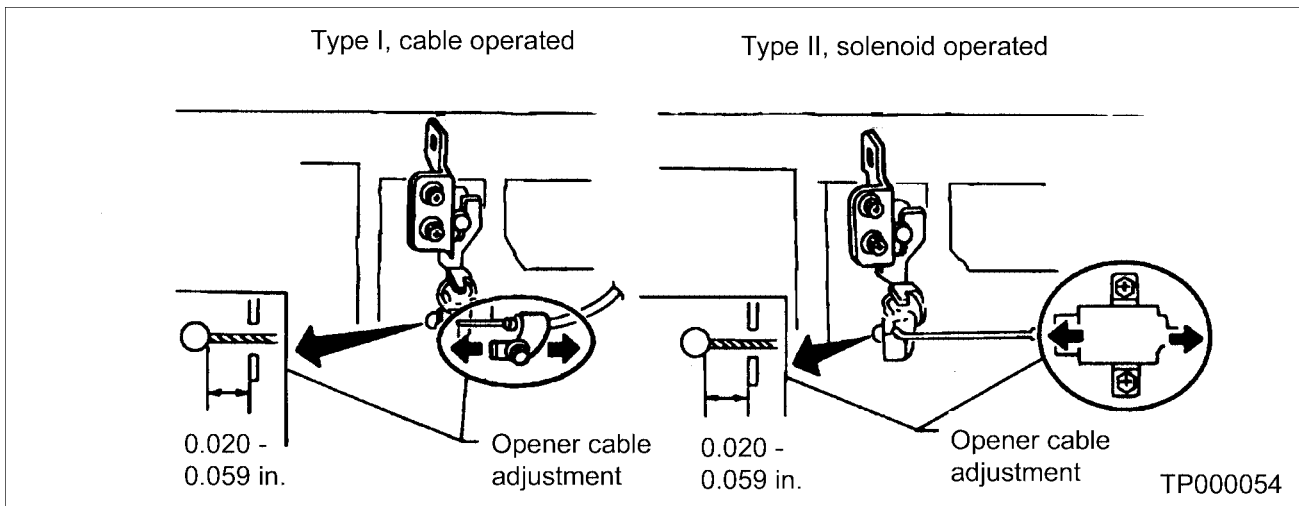

Figure 2
6. Check the trunk lid opener cable adjustment (see Figure 2). Adjust as needed.